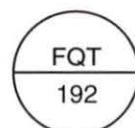

Figure 68. Instrument Tag
7. Determine the measured variable and function of the device using the instrument tag in figure 68.